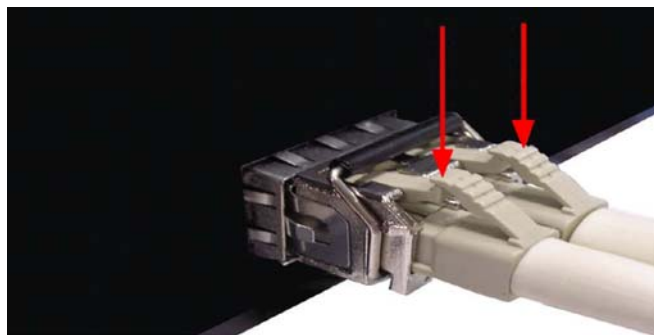

Figure 9. Remove LC Connector
1. Press the upper side of the LC connector from the transceiver and pull it out to release as shown in figure 9.